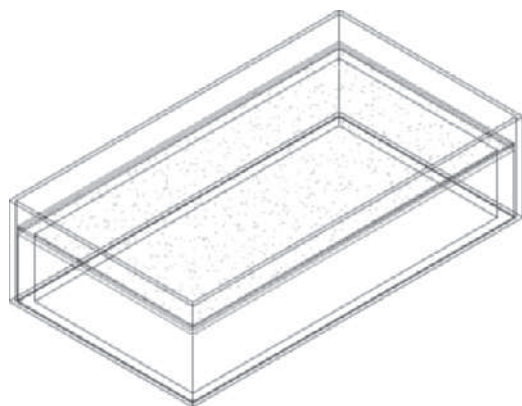

FIGURE 8.23 SW Isometric view of roof (Imperial shown)
10. Select **Top** from the View Cube. Choose **SW Isometric** from the View Cube to view the flat roof as shown in Figure 8.23.